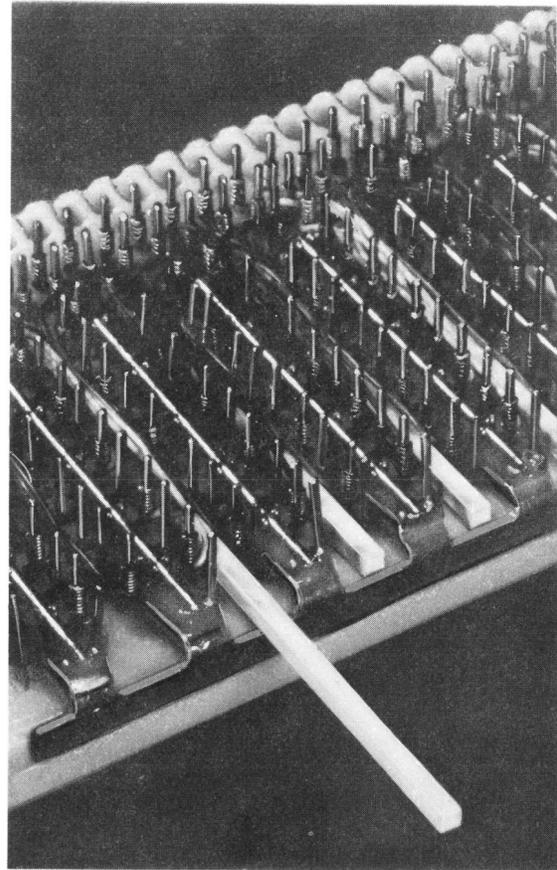

Fig. 9—Procedure for Using Toothpicks on 303-Type Connectors Supplied With D-180450 Modification Kit
- (4) Insert the wedge-tipped toothpicks at the back of the connector (see Fig. 9). The toothpicks are pushed between adjacent rows of terminals prying the backplane wiring up and off the back side of the panel. The toothpicks are just long enough to pass beneath the wiring of one row of protector units.
- (5) Remove the stub cable clamps and ground wire from the old mounting bracket on the frame, saving the self-tapping screws for reuse. It may be necessary to remove some of the cord ties on the stub cable to obtain working slack.
- (6) Remove the old mounting bracket from the frame and discard. It may be necessary to